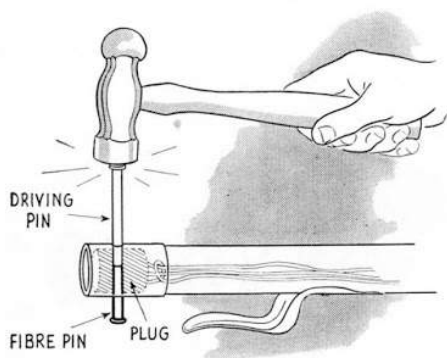

FIG. 29—Removing fibre pin and base plug from handle
1. Drive out the fibre pin (See Figure 29) or remove the screw that holds the plug in place.
1. Remove plug from base of handle as outlined above. See Figure 29.